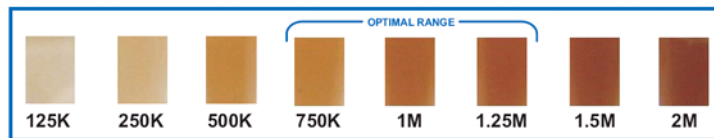
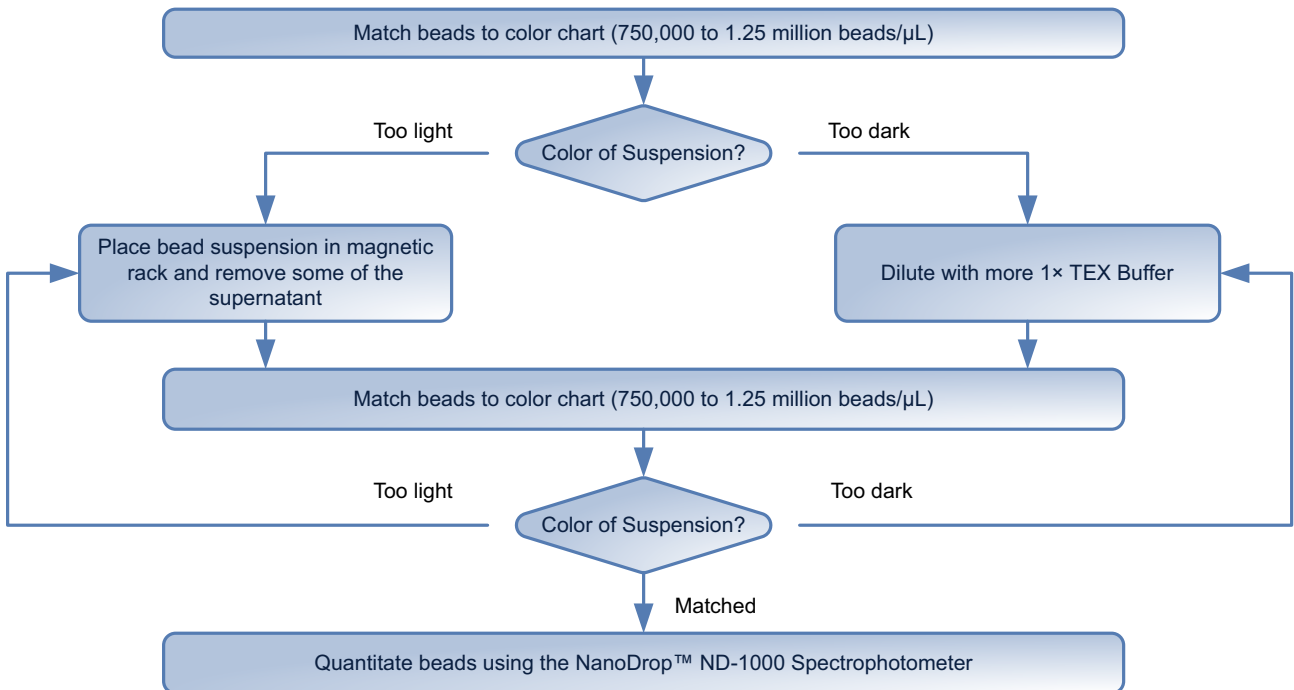

Figure 8 The SOLiD™ Bead Concentration Chart. For best results, use the Applied Biosystems SOLiD™ Bead Concentration Chart (PN 4415131), supplied separately.
Figure 9 SOLiD™ Bead Concentration Chart workflow.
2. If a WFA run has already been performed, use the results from the WFA report to estimate the bead concentration and proceed to step 5; otherwise, use the SOLiD™ Bead Concentration Chart (PN 4415131) to estimate the bead concentration (see Figure 8).
3. Adjust the volume of beads so that the color of the bead solution matches a color in the optimal range (750,000 beads/μL to 1.25 million beads/μL; see Figure 8 and Figure 9).